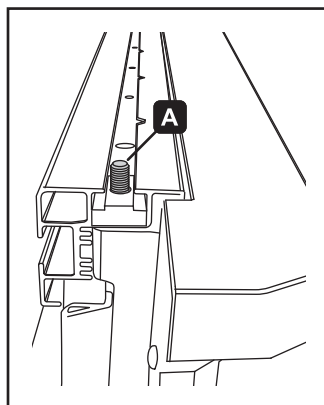

Figure 1.
1. Place the anchor (A) (and accessory) into the desired location (figure 1).